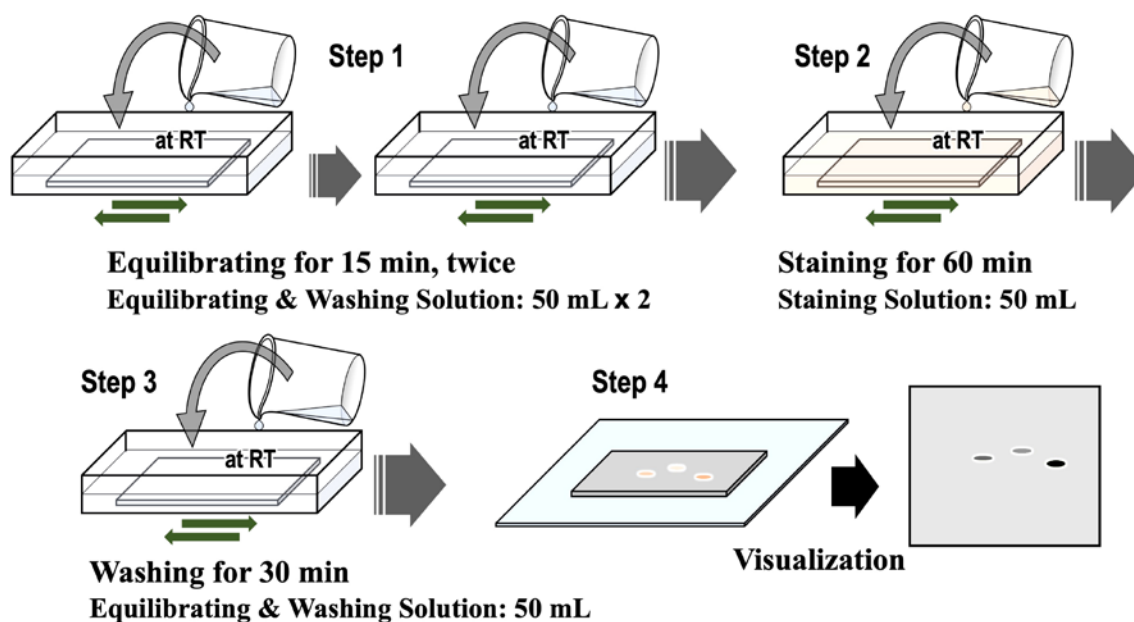

Figure 1. Step-by-step procedure for Phos-tag™ Aqua staining.
6. Basic Protocol for Phos-tag™ Aqua Gel Staining: **Figure 1 shows the step-by-step procedure.**